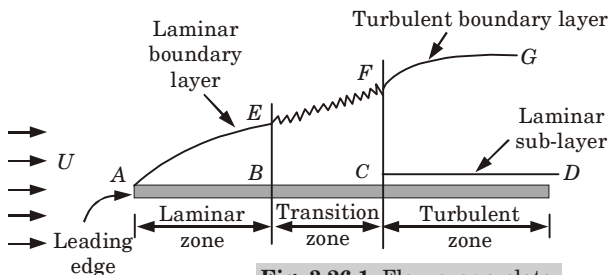

Fig. 3.26.1. Flow over a plate.
1. Consider the flow of fluid, having free-stream velocity (U), over a smooth thin plate which is flat and placed parallel to the direction of free stream of fluid.
6. The fluid with a uniform free stream velocity (U) is retarded in the vicinity of the solid surface of the plate and the boundary layer region begins at the sharp leading edge.
9. This layer of the fluid is said to be laminar boundary layer shown by AE in Fig. 3.26.1. The length of the plate from the leading edge, up to which laminar boundary layer exists is called laminar zone shown by distance AB .
5. This layer of boundary is called turbulent boundary layer, which is shown by the portion FG in Fig. 3.26.1.